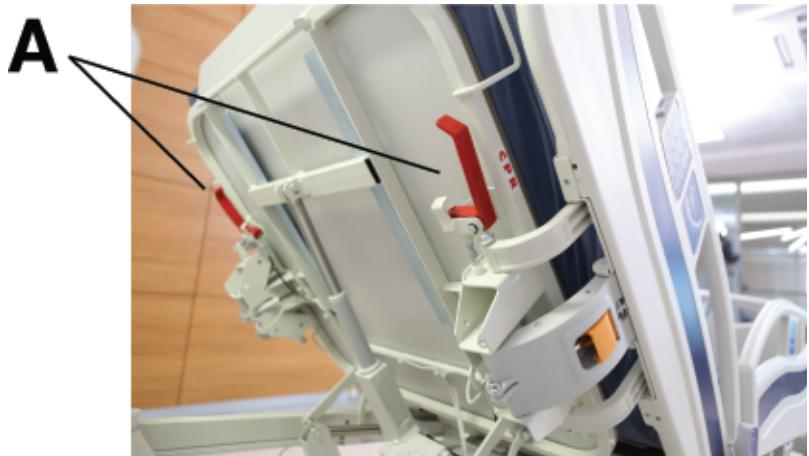

Figure 13 – CPR release
1. Grasp either lever (A) and pull outward (Figure 13).